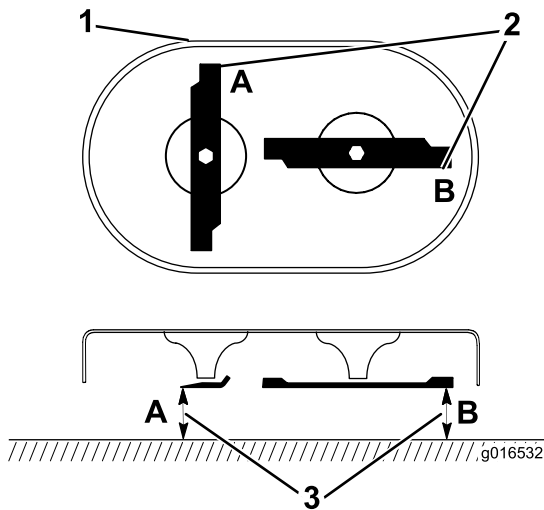

Figure 39
1. Rotate the blades to the position shown in Figure 39.
2. Measure from a level surface to the cutting edges at locations A and B (Figure 39), and record both dimensions.
3. Rotate the blades so that their opposite ends are at locations A and B (Figure 39).